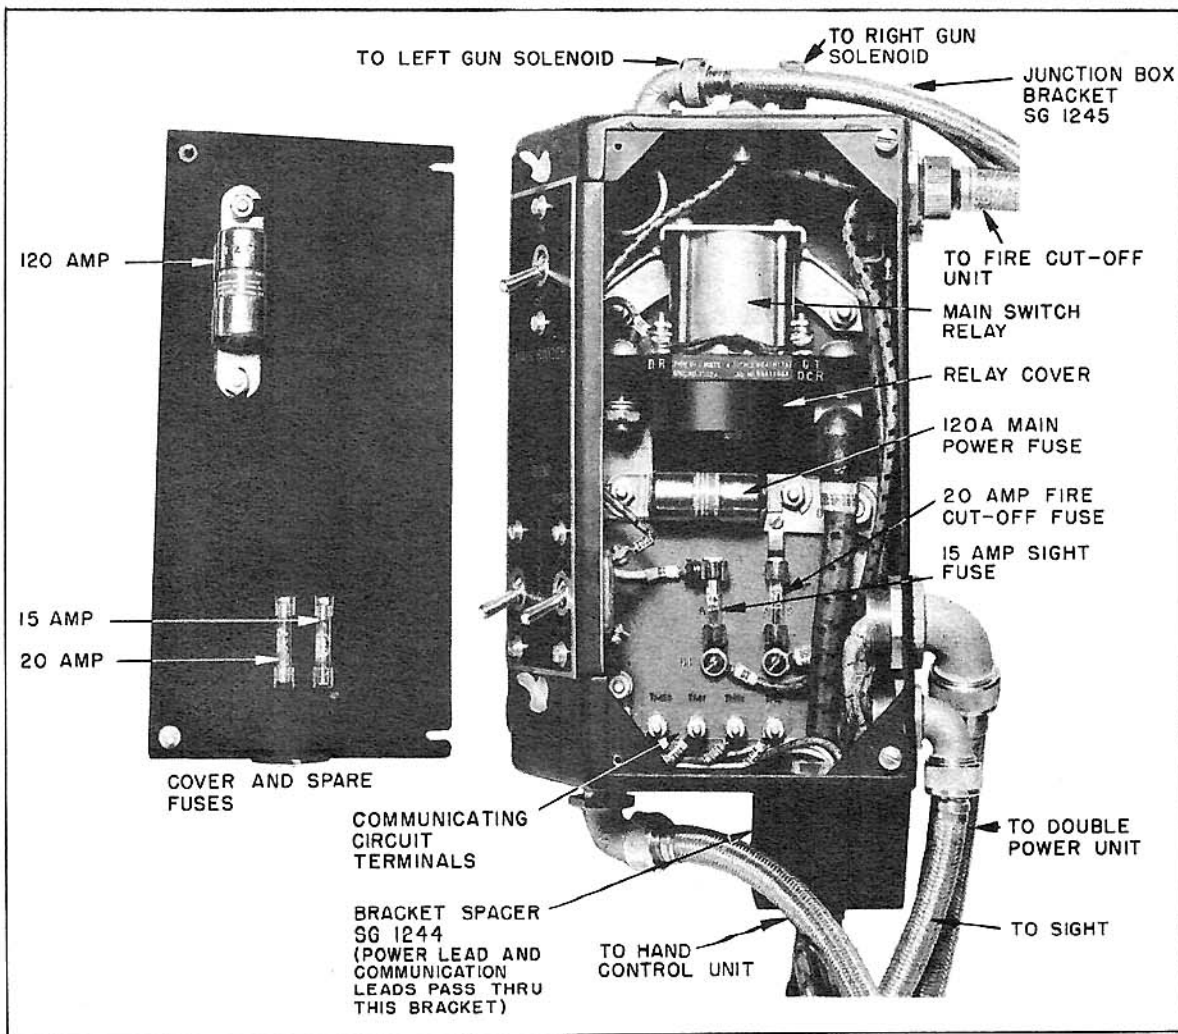

FIGURE 34
m. Main Switch and Junction Box. - (1) (See Figure 34). Replacement of the main switch relay and the switches will probably be the only overhaul required for this unit.
(2) Remove the switch plate and the switch box cover.
(3) To inspect the relay, remove the 2 hexagon nuts from the bottom cover of the relay and lift off the relay cover.